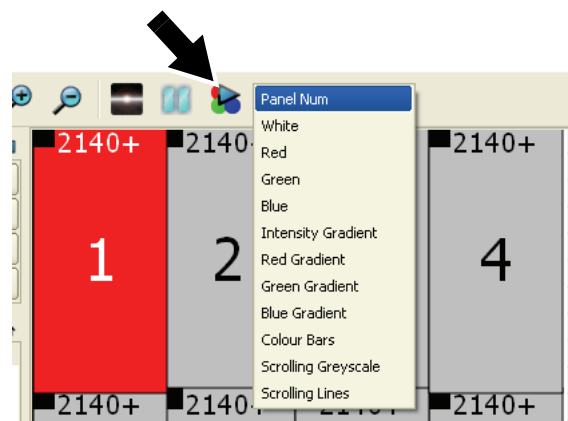

Figure 16: Test pattern
4. See Figure 16. When you have finished addressing panels, click on the test pattern button (arrowed) in the toolbar at the top of the screen to activate a test pattern over the whole installation. Select **Panel Num** from the scroll-down list of pattern types beside the button. The LC Plus panels in the installation will now show their display addresses as large numbers. An arrow will indicate their up/down orientation, and angles will indicate panel corners.